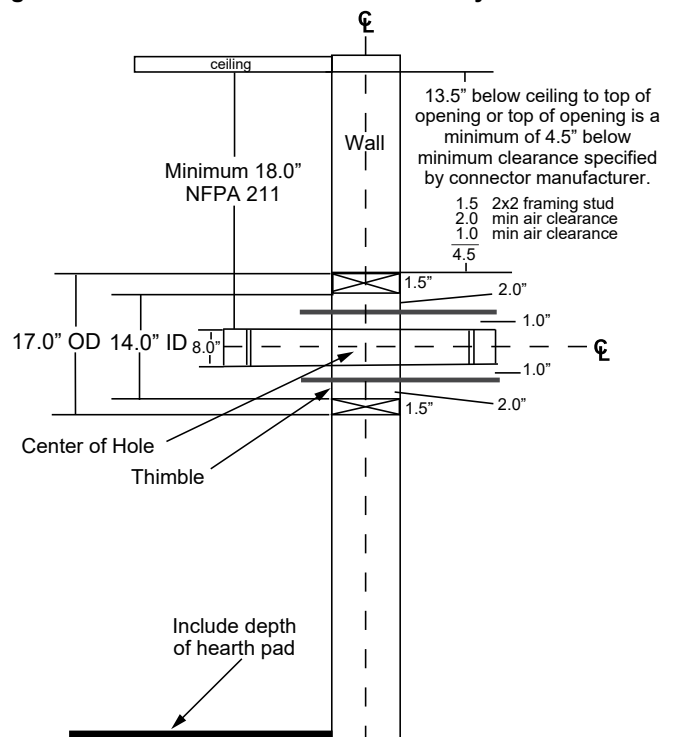

Figure 19.2
- Top of wall opening is a minimum of 13-1/2 inches (343mm) from ceiling or 4-1/2 inches (114mm) below minimum clearance specified by chimney connector manufacturer. **NFPA 211** minimum vertical clearance of 18 inches (457mm) from chimney connector and ceiling or minimum recommended by chimney connector manufacturer (**Figure 19.2**).
1. Open inside wall at proper height for the chimney connector to entry the masonry chimney (**Figure 19.2**).
3. Construct a 17 inch x 17 inch (432mm x 432mm) outside dimension frame from 2 x 2 framing lumber to fit into wall opening. Inside opening of frame should be no less than 14 inch x 14 inch (356mm x 356mm) (**Figure 19.2**).